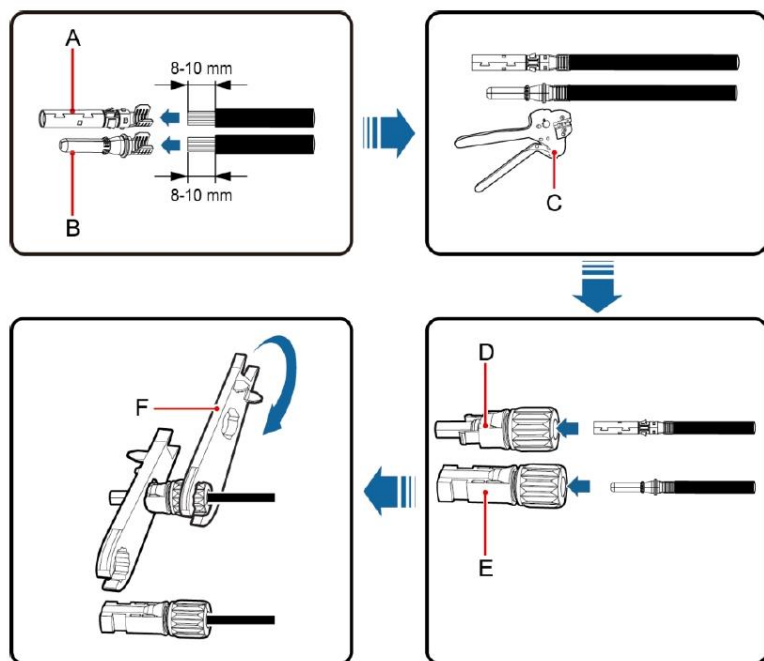

Figure 4.13 MC4 DC connector and PV string connection
Fig 4.13 is the connection diagram for PV grid-connected system.
- (1) Before connecting PV string to inverter, ensure proper measures against lightening and short circuit have been taken;
- (2) Connect the output cables of solar modules to the DC connector of inverter as Figure 4.13 shows. Remove the isolation layer of the DC cable for about 8-10mm. Insert the conductor part into the appropriate position of the connector, crimp the MC4 DC terminal and tighten the nut with a torque of 2.5-3Nm. Ensure the poles of solar modules are correctly and well connected with the connectors